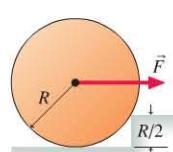

FIGURE P8.44
44. The wheel of mass m in Figure P8.44 is pulled on by a horizontal force applied at its center. The wheel is touching a curb whose height is half the wheel's radius. What is the minimum force required to just raise the wheel off the ground?